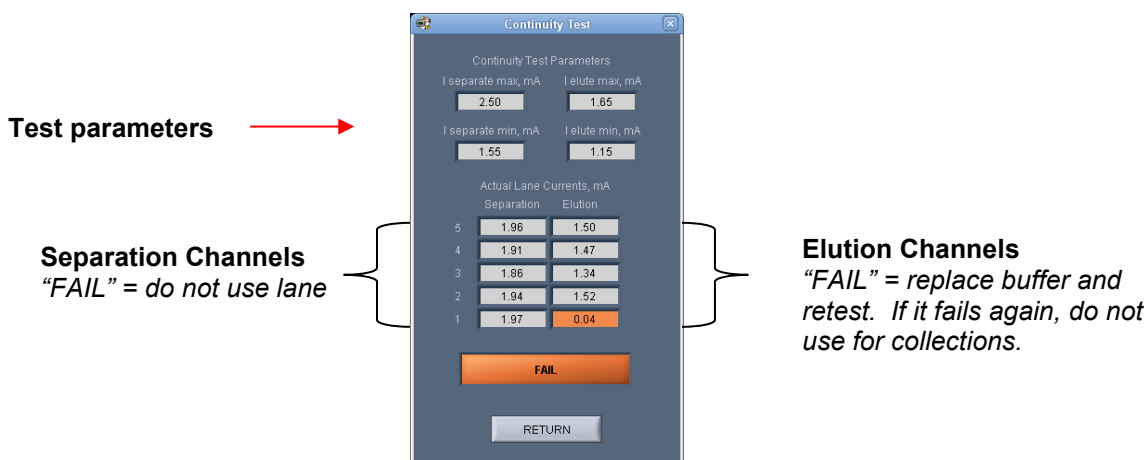

Figure 10.5. The Continuity Test screen. The elution channel in lane 1 has failed.
3. A failed test is indicated by a “FAIL” message, and the failed channel is highlighted in orange. **Figure 10.5** shows a failed test screen (elution channel in lane 1). If an Elution channel has failed, it may be due to low buffer levels and may be rectified by refilling (see step 5 below).